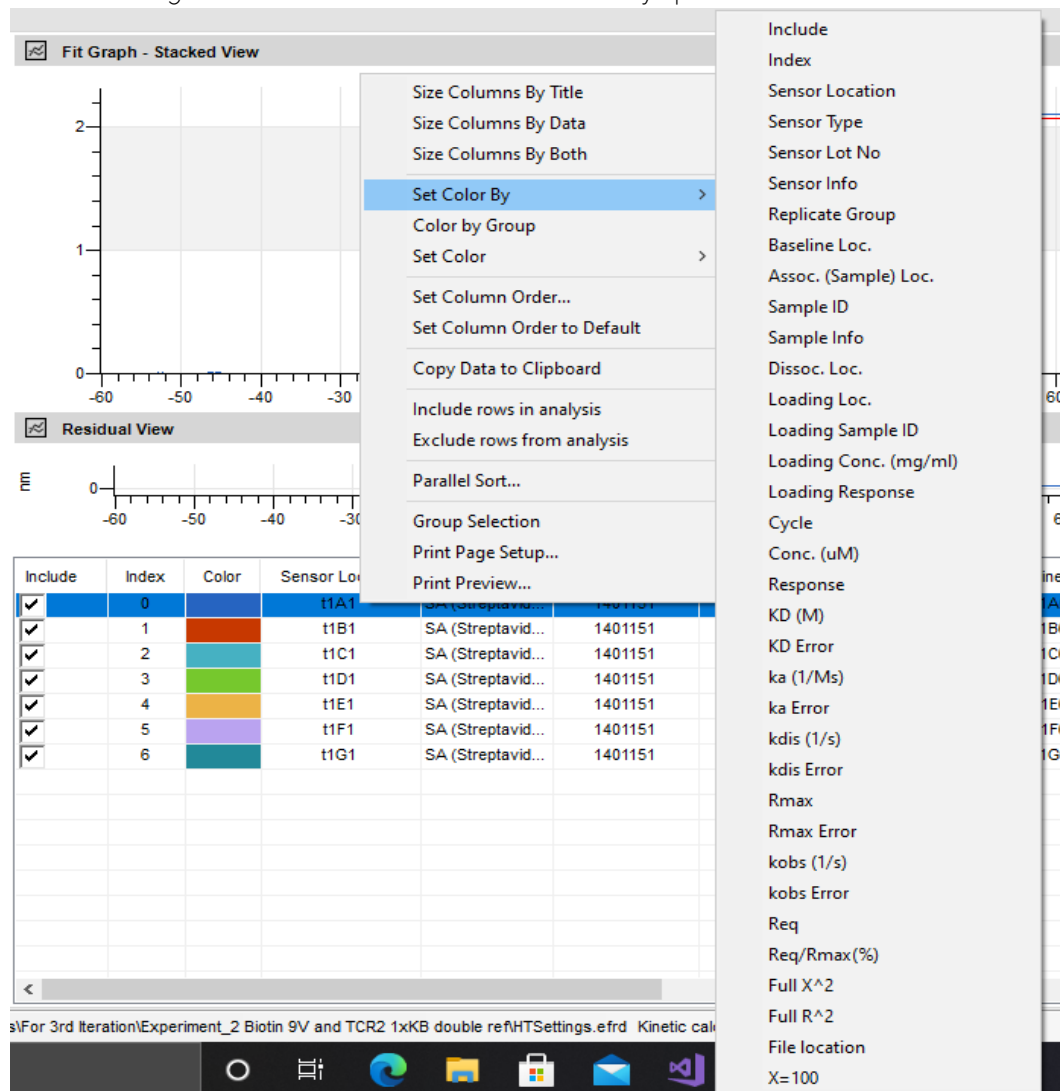

Figure 5-47: Set Color By
- **Set Color By** - Lets you color-code data by a table column variable (Figure 5-47). Once you select a variable, the binding curve and table row colors automatically update.